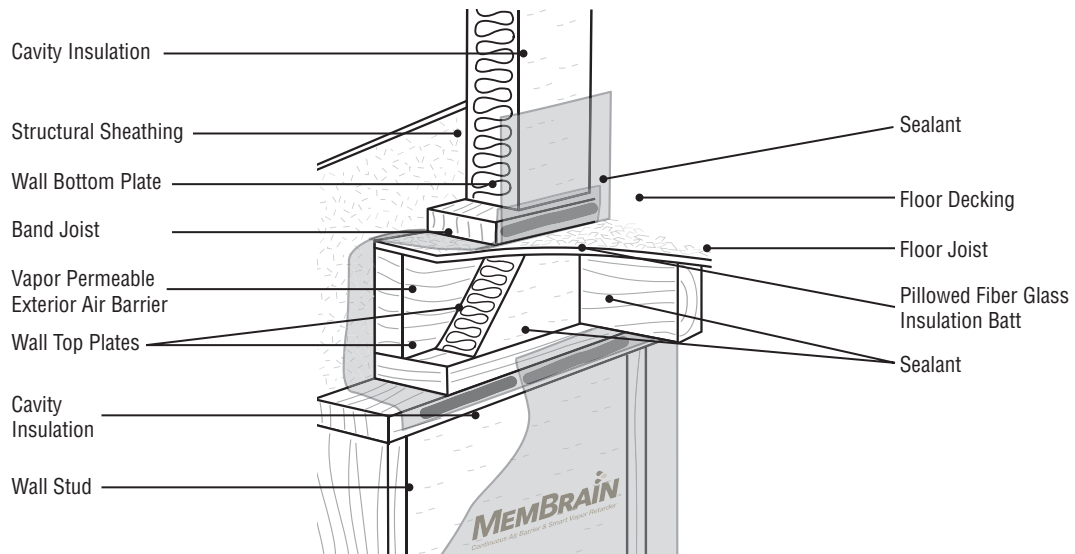

Figure 17: Detail B – MemBrain Air Barrier System interior floor intersection details.
4. Apply recommended sealant over ceiling-overlapped film material at the top plate, to the frame around window and door rough openings and to the bottom plate (See MemBrain Air Barrier System Details on page 4 and Figure 17 on page 10). Working toward the opposite corner, pull the sheet tight, and staple the offset edge to the top sill plate through the sealant bead. Staples should be at least 12 to 24 inches apart.